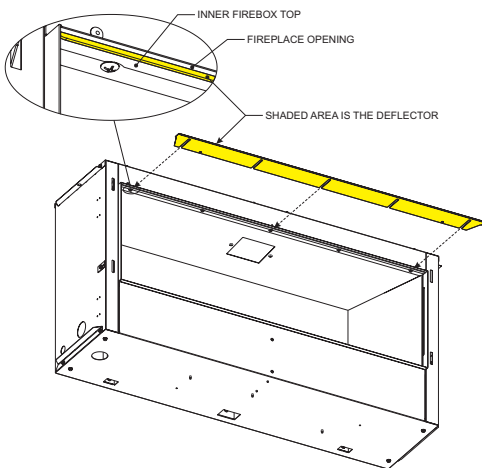

Figure 34
If installing an optional **Inner Top Deflector**, loosen the (5) Phillips head screws securing the inner firebox top. **(See Figure 34)** Do not remove screws completely. Slide into place with the inner top deflector slot angled downward. Slide the deflector between the inner firebox top and the fireplace opening, until the front of the deflector is flush with the wall. Tighten the (5) Phillips head screws to lock in place.